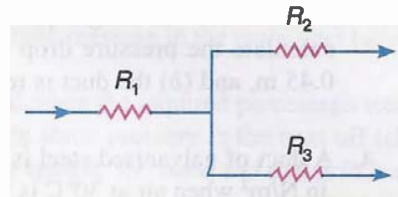

Fig. 20.27
**Example 20.18.** A duct system is represented diagrammatically as shown in Fig. 20.27, where